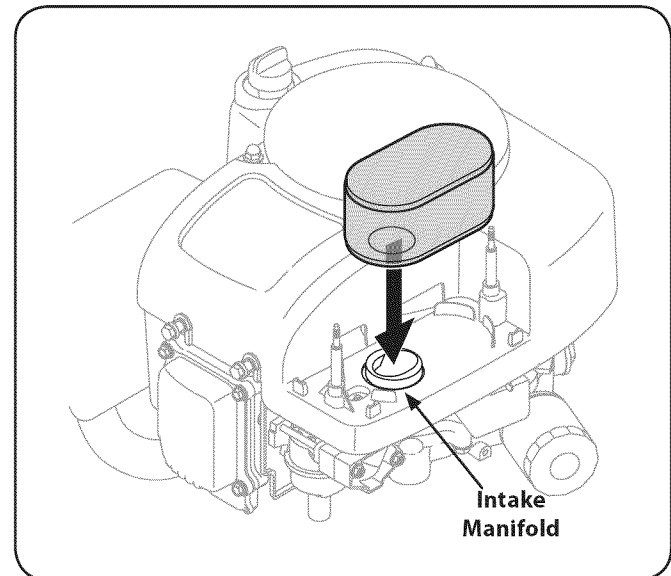

Figure 16
5. Attach the new air filter with foam element, aligning the hole in the air filter with the intake manifold. See Figure 16.